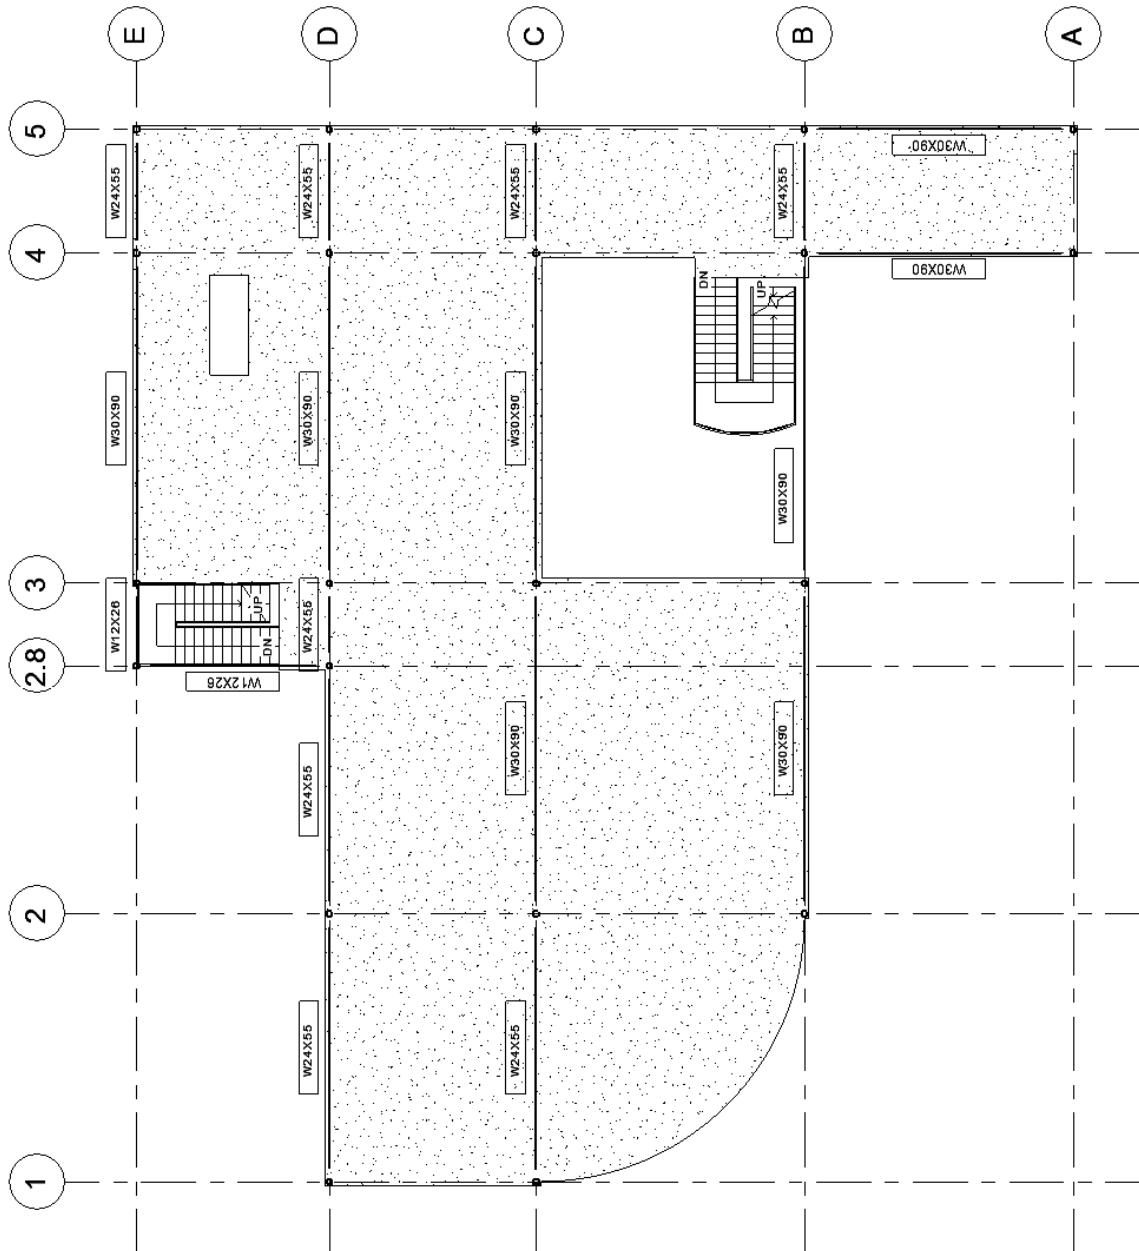

FIGURE 7-3.20 Level 2 beams with tops 8" below the Level 2 plane; image rotated to increase size
35. Place all the beams shown in Figure 7-3.20.